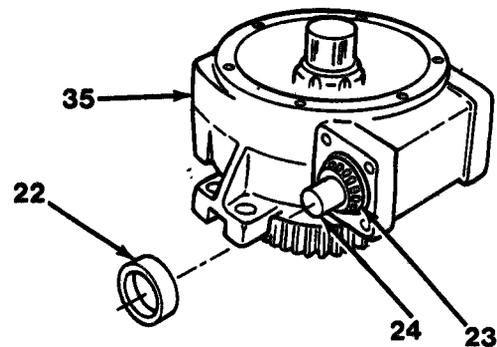

Figure 15-6
11. Install worm (24) and bearing (23) in housing (35, Figure 15-6).
12. Press remaining bearing cone (23) on worm (24).
13. Press two bearing cups (22) in housing (35).